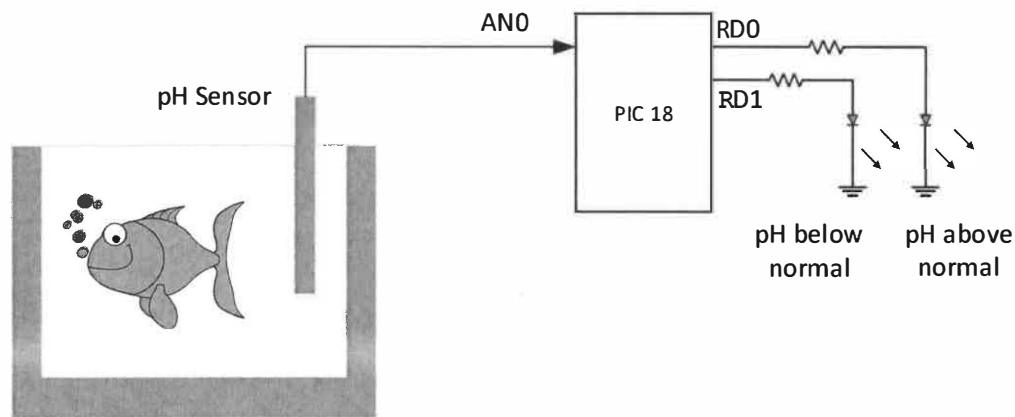

Figure B3.
- B3.** A PIC18 based system will be used to monitor water pH level. Saltwater fish prefer an alkaline pH of 8.0 or above. The pH sensor used for the system has an analog output of 0-5V that corresponds to a pH level between 5-10. A diagram illustrating the water pH monitoring system is shown in Figure B3. It is expected that when the pH level drops below 8, the LED for “below normal” value is turned on to alert the user. Similarly, when pH level is above 9, pH is “above normal” LED indicator is turned on.